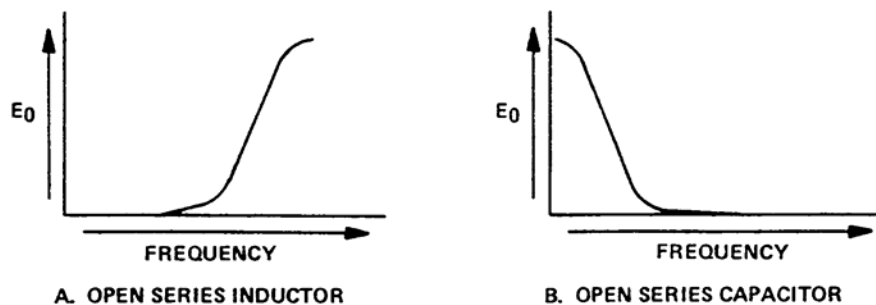
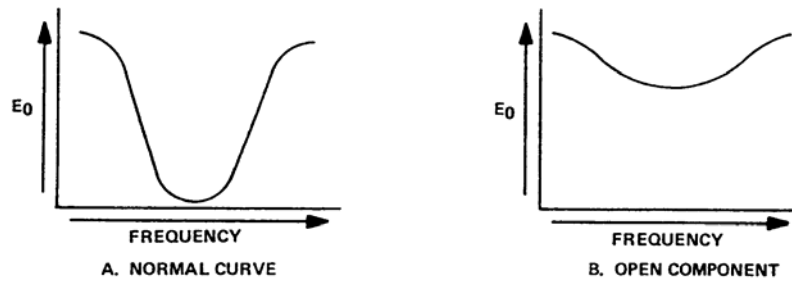

Figure K-6. Band Reject Filter
Figure K-7. L2 or C2 Open
d. If either L2 or C2 in Figure K-6 were to open, there would no longer be a path for current in parallel with the load resistor. This means the impedance of the network that is made up of L2, C2, and R would be greater than before. Meanwhile, the impedance of the other network (L1 and C1) would be unchanged. Realize that the two networks are in series with each other. Next remember that in a series circuit, an increase in the opposition of a component (or network) will cause that component (or network) to drop a bigger share of the applied voltage. In the filter circuit of Figure K-6, the net result will be that the network made up of R, L2, and C2 will now drop more voltage at all frequencies. Figure K-7 shows that the entire filter circuit will be less efficient at rejecting the frequencies within the rejection band. Or, the filter circuit will now pass more frequencies than it should.
e. If either series component (L1 or C1) were to completely short, the entire series portion of the circuit would be shorted. Without any series impedance in the circuit, the voltage normally dropped by the tank would have to be dropped by the load. Once again, the whole circuit would be less efficient at rejecting the frequencies within the rejection band. As with any short, burnout could occur. This would be very likely at or near the resonant frequency of L2 and C2 because their net reactance would approach zero, thus shorting out the entire circuit. So a shorted series component in the circuit of Figure K-6 could cause multiple problems.
g. If the inductor were to open, the circuit would behave like a high pass filter, and the frequency response curve would resemble Figure K-8B. The lower frequencies would be attenuated much like the curve in Figure K-6.